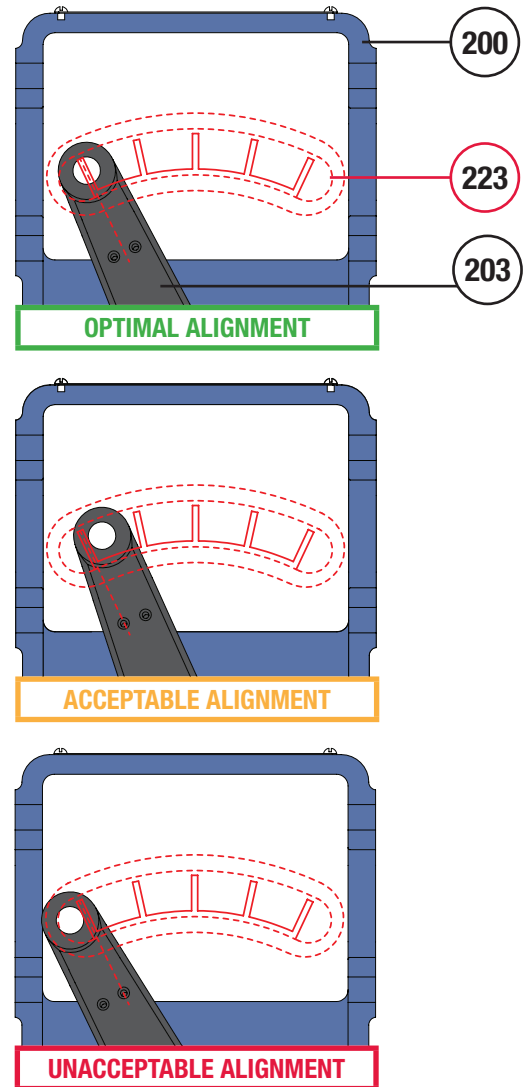

Figure 54 Proper Lever Alignment
If the lever (Key 203) does not properly align with the travel scale when the valve is in the closed position as shown in Figure 54 (UNACCEPTABLE ALIGNMENT), then the lever is misaligned on the shaft (Key 112). An unacceptably aligned lever will cause operation errors. It will be necessary to separate the valve from the actuator again and reposition the lever on the shaft.
- 2 Temporarily install the front cover (Key 223), use the travel scale to verify that the lever (Key 203) is aligning with the closed position on the travel scale. Refer to Figure 54 for proper lever placement.
If the lever (Key 203) does not properly align with the travel scale when the valve is in the closed position as shown in Figure 54 (UNACCEPTABLE ALIGNMENT), then the lever is misaligned on the shaft (Key 112). An unacceptably aligned lever will cause operation errors. It will be necessary to separate the valve from the actuator and reposition the lever on the shaft. Refer to Valve/Actuator Separation on Page 10 and ASSEMBLY, Yoke-to-Valve Mounting on Page 25 for instructions on removing and re-installing the lever.